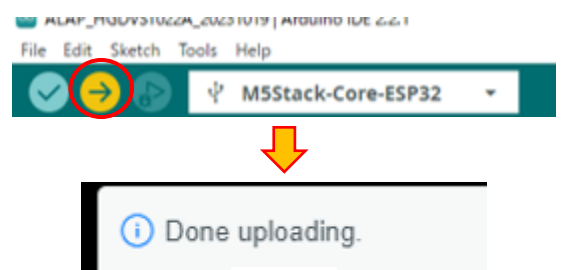

Fig.6
1. Click “→” for upload and wait for message “Done uploading” (Fig.6).